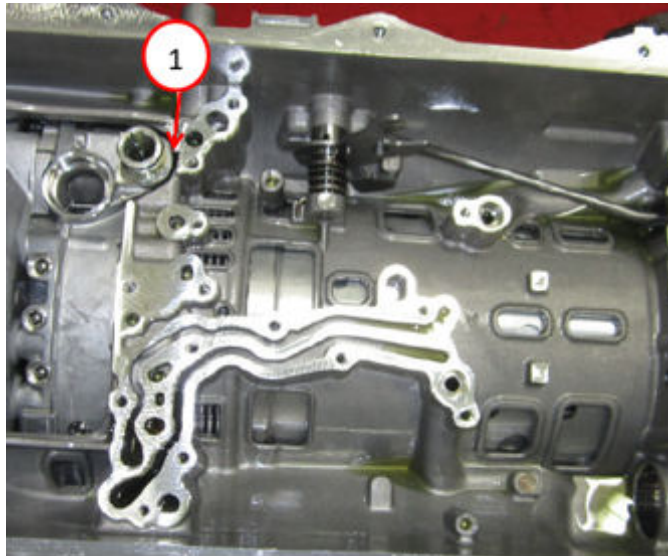

Fig. 16
22. Carefully pry the oil pump housing away from the case using a small flat blade screwdriver or equivalent through the case opening Fig. 16.